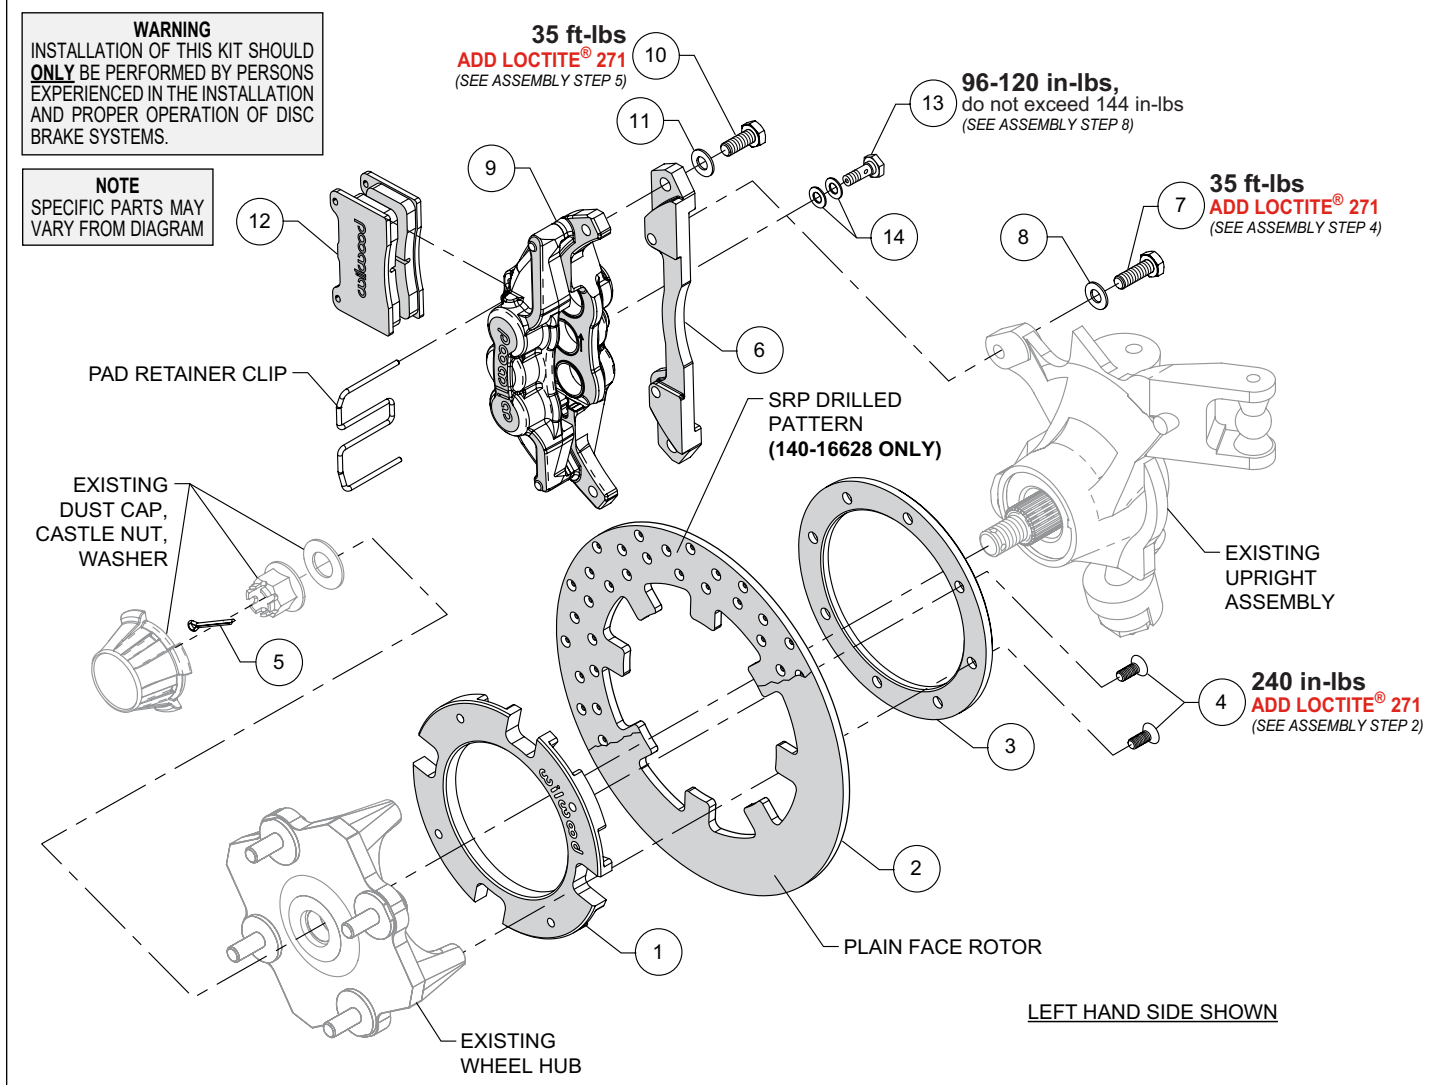

Figure 1. Typical Installation Configuration
NOTE: Numbers in parenthesis refer to the parts list and Figure 1 on the preceding pages.
STEP 1 Place the existing OEM wheel hub face down and position the rotor adapter (1) onto the wheel hub as shown in Figure 1 and Photo 1. **NOTE:** The existing wheel hub must be free of dirt and debris or excessive rotor run out may result.
STEP 2 Position the rotor (2) onto the rotor adapter (1), making sure the rotor lugs fit into the recesses of the rotor adapter, as shown in Photo 2. Place the adapter ring (3) onto the assembly and attach using bolts (4), Photos 3 and 4. Using an alternating sequence, apply red *Loctite*® 271 to the threads, and torque to value shown in Figure 1.
STEP 3 Grease the splines and outer snout of the existing wheel hub and slide the wheel hub/rotor assembly onto the axle and attach using the existing OEM washer and castle nut. Tighten to OEM specifications and secure using cotter pin (5), Photo 5. Reinstall the existing dust cap, Photo 6.
STEP 4 Orient the caliper mounting bracket (6), as shown in Figure 1 and Photo 7. Install using bolts (7) and washers (8). Apply red *Loctite*® 271 to the bolt threads and torque to value shown in Figure 1.
STEP 5 Secure the caliper (9) to the mounting bracket (6) using bolts (10) and washers (11), as shown in Figure 1 and Photo 8. Apply red *Loctite*® 271 to the threads, and torque to value shown in Figure 1.
STEP 6 Remove the pad retainer clip from the caliper (9). Insert the brake pads into the caliper with the friction material facing the rotor, as shown in Photo 9. Reinstall the pad retainer clip, Photo 10.
STEP 8 Attach brake line to caliper. Orient OEM brake line as shown in Photo 11 and connect to caliper using banjo bolt (13) and crush washers (14). Do not use lubricant or thread sealant on banjo bolt (13). Torque to minimum value shown in Figure 1. Check for leakage, increasing torque only to stop leakage without exceeding maximum specification. Replace crush washers and banjo bolt whenever reassembly is required. **Ensure hoses are routed to prevent contact with moving suspension, brake or wheel components.**